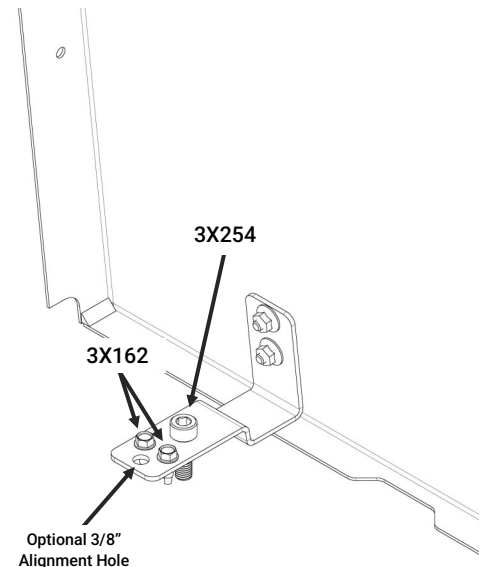

Figure 6
4. Position the support bar on the driver side to line up with the Driver Lower Barrier Bracket and then insert (1) 5/16"-18 button head screw [3X149] into the support bar and loosely attach (1) 5/16"-18 whiz nut [3X619]. Repeat for the passenger side support bar with the remaining button head screw and whiz nut.
5. Locate the (2) [(3) for retractable belt] remaining M10 socket cap screws [3X254] and the (4) [(6) for retractable belt] self drilling hex head screws [3X162]
6. Starting on the driver side, align the large hole closest to the barrier in the Lower Barrier Bracket with the threaded hole in the OEM crossmember. Loosely thread (1) M10 socket cap screw [3X254] through the hole. Repeat on the remaining brackets with the remaining M10 screw(s).
8. Making sure the bracket stays aligned, use a 3/8" socket to drive (1) self drilling screw [3X612] into each of the (2) small holes on the Lower Barrier Bracket. Remove the 3/8" alignment bolt if one was used. Figure 6 shows a fully fastened Lower Barrier Bracket.